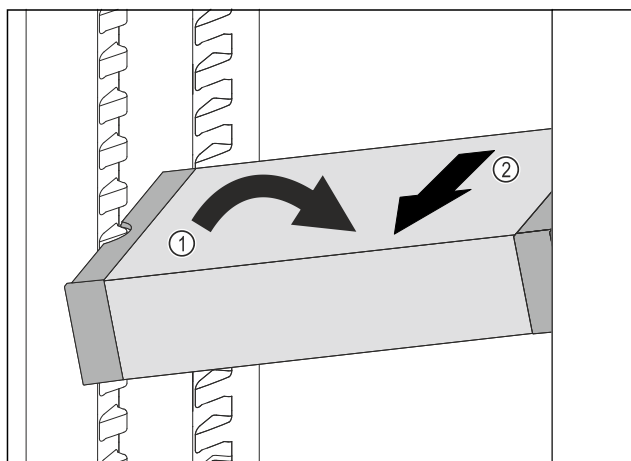

Fig. 132
- ▶ Set VarioSafe in refrigerator compartment at an angle. Fig. 132 (1)
- ▶ Take VarioSafe out to the front. Fig. 132 (2)